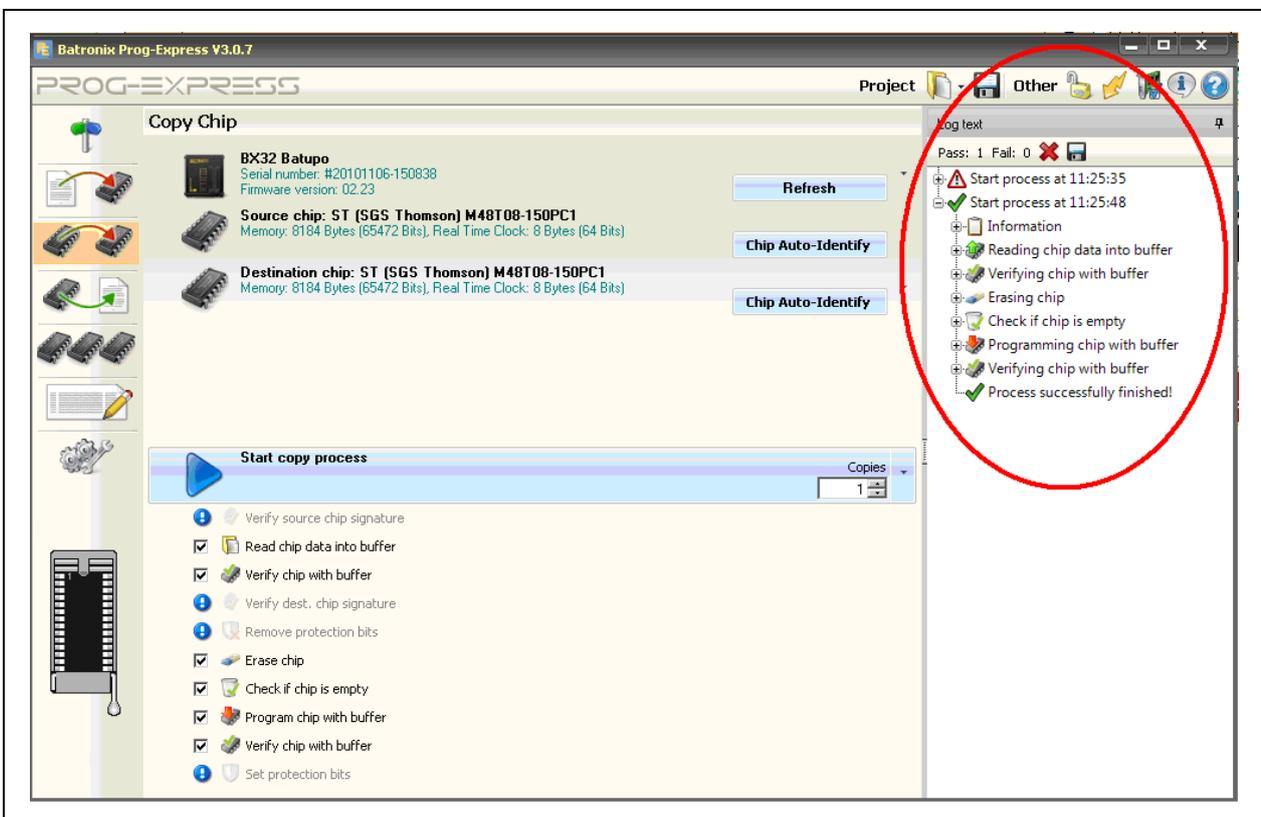

Figure 14: Copying process successfully completed
- j) After the software has copied the data to the new chip, make sure there was no failure during the process. You can check this in the log text on the right hand side (see Figure 14). If the copying process was not successful, repeat Step 3 numbers c)-i).